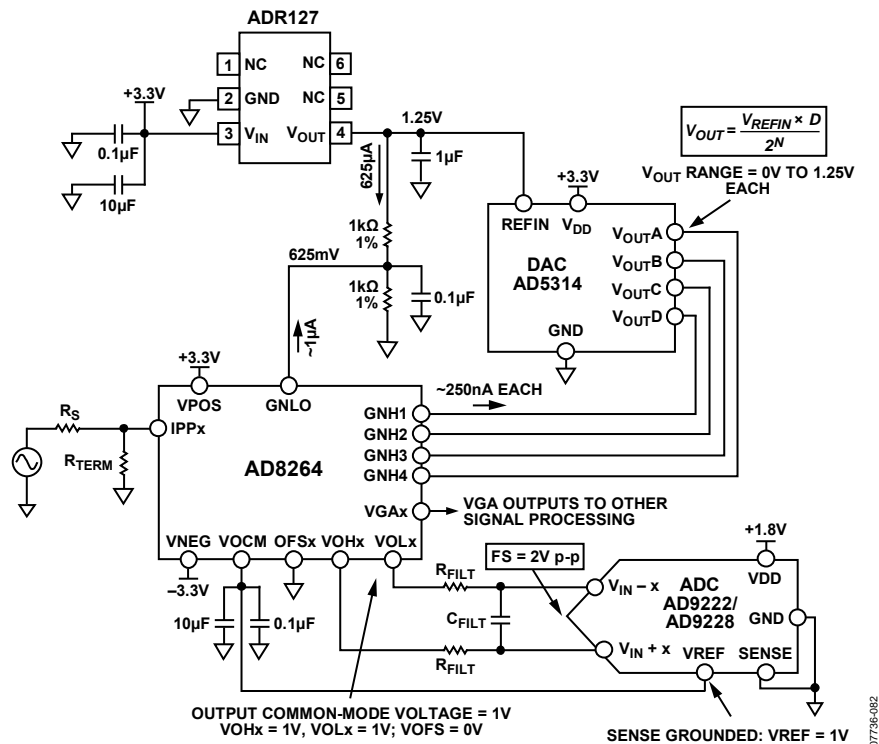
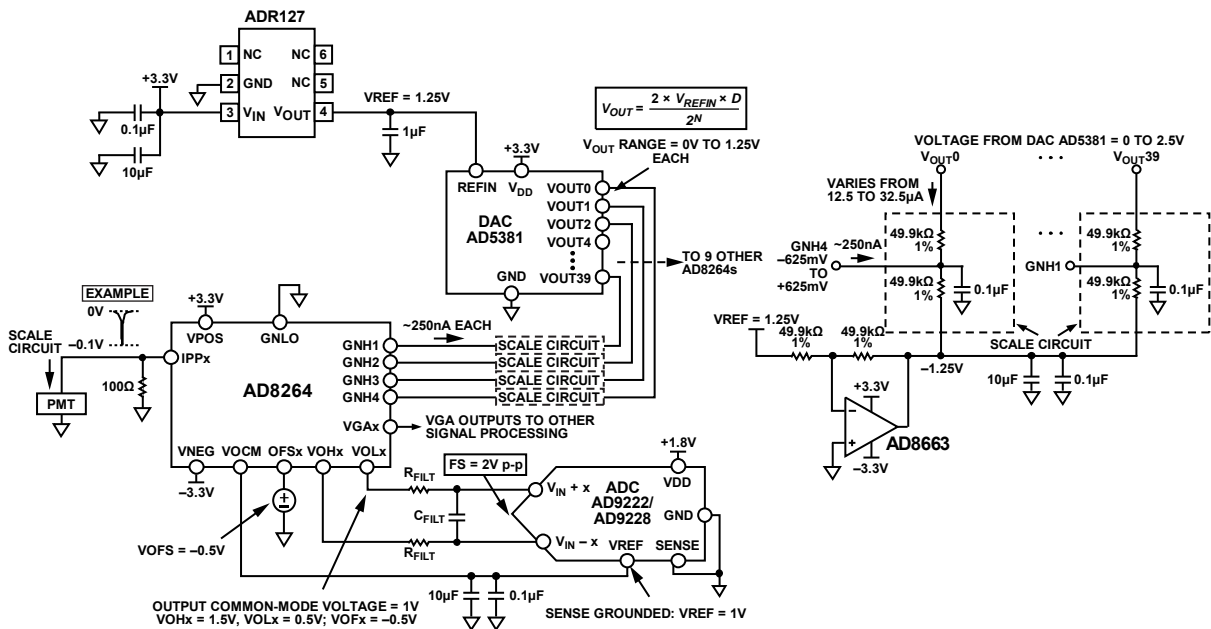

Figure 112. Application Concept of the AD8264 with the AD5314 10-Bit DAC and the AD9222/AD9228 12-Bit ADC
Figure 113. Concept Application of AD8264 with 40-Channel AD5381 12-Bit, 3 V DAC and AD9222/AD9228 12-Bit ADC
The AD8264 is particularly well suited for use in the analog front end of medical PET imaging systems. Figure 112 shows how to use the AD8264 with the AD5314 (a 4-channel, 10-bit DAC) and the AD9222/AD9228 (an octal or quad, 12-bit ADC, respectively). The DAC sets the gain of the AD8264. Note that the full gain span of 24 dB is achieved with this setup because the gain control input range of the AD8264 is very close to 1.25 V. The GNLO pin must offset by 1.25/2 = 625 mV because the gain control input is bipolar around the voltage applied at GNLO. This is done with two 1 k Ω , 1% resistors. The approximately 1 μ A of bias current flowing from the GNLO pin does not contribute a significant error because the basic gain error of the AD8264 is the limiting factor.
Figure 112 also includes the DAC output equation, which indicates that the output can vary between 0 V and $V_{REF} = 1.25$ V.
The single-ended-to-differential amplifier of the AD8264 amplifies the VGA output signal by 6 dB and can provide the required dc bias of the AD9222/AD9228, as shown in Figure 112. The ADC is connected with the default internal reference because the SENSE pin is grounded. With this connection, the AD9222/AD9228 VREF pin is an output that provides 1 V; this is then connected to the VOCM input of the AD8264, which sets the output common-mode voltage of the VOHx and VOLx pins to 1 V. This voltage is very close to the recommended optimal value of $V_{DD}/2 = 0.9$ V. With this configuration, the ADC inputs are set to a full-scale (FS) of 2 V p-p.
The dc connected concept example in Figure 113 is an application with the 40-channel AD5381, 3 V, 12-bit DAC. The main difference between this example and Figure 112 is that, for the same ADR127 1.25 V reference, the full-scale output of the DAC is from 0 V to $2 \times V_{REFIN} = 2.5$ V. Two options for gain control include the following:
- Use the same circuit as in Figure 112 but use only half the DAC output voltage from 0 V to 1.25 V. This is the simplest solution, requiring the fewest extra components. Note that the overall gain resolution increases by one bit to 11 bits over the 10-bit AD5314.
- Ground GNLO and scale the DAC output so that the GNHx inputs vary from -0.652 V to $+0.625$ V. Figure 113 shows a possible circuit implementation using a divider between the DAC output and a -1.25 V reference.
Figure 113 shows how the AD8264 is connected in a PET application. The PMT generates a negative-going current pulse that results in a voltage pulse at the preamplifier input and a differential output pulse on VOLx and VOHx.
A convenient method of verifying and customizing the signal chains shown in Figure 112 and Figure 113 is by ordering the corresponding evaluation boards available on www.analog.com. The AD8264-EVALZ is a platform through which the user can quickly become familiar with the features and performance capabilities of the AD8264. See the Evaluation Board section for more information.